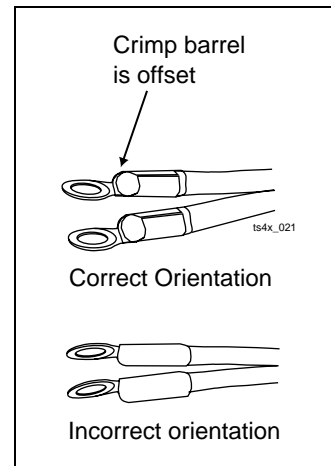

Figure 4. Orientation of Line Cord Screw Lugs
7. Position the screw lugs of a new line cord on the PCB. Make sure the crimp barrel offset side of the screw lugs is up (see Figure 4) and that the line cord screw lugs are flush against the PCB.